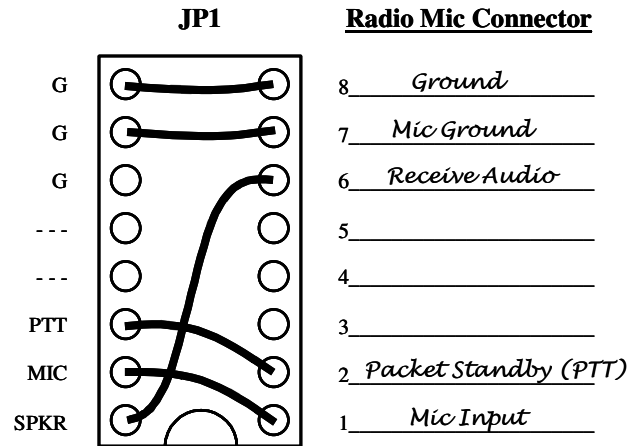

Figure 3 – Example Jumper Wire Diagram for TS-450 Mic
- **Draw Jumper Wires** - Once you have verified your pin-out and are comfortable with the results, you are ready to label the lines in Figure-2 and draw in the jumper wires. To do this, you simply need to draw a line between the pins on the left of JP-1 (G, PTT, Mic & SPKR) and their appropriate match on the right side of the diagram. For example, draw a line between the “G” pin on the left of JP-1 and the line that you labeled “Ground”. The “PTT” pin should be connected to the pin that you labeled “PTT” and so on. If you are installing the Signalink on a Data or Accessory port, then refer to Figure 1 for the correct signal names. An example of the microphone Jumper Wiring Diagram for a Kenwood TS-450 is shown in Figure 3.